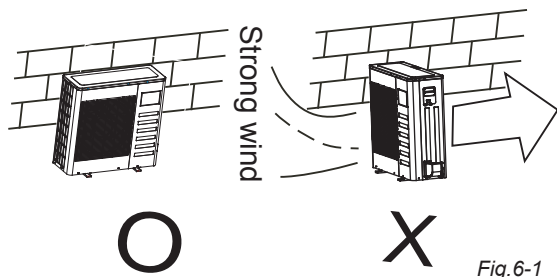

Fig. 6-1
- In case the installation place is exposed to strong wind such as a seaside, make sure the fan operates properly by putting the unit lengthwise along the wall or use a dust shield. (Refer to Fig. 6-1)